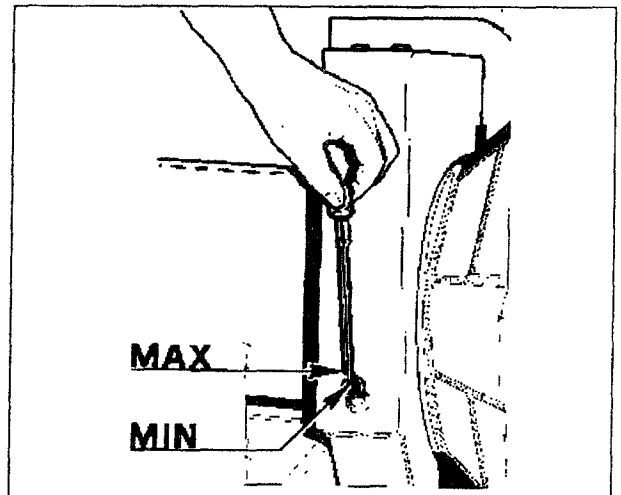

Fig.54
2. Check gear oil once a week (Fig.54).